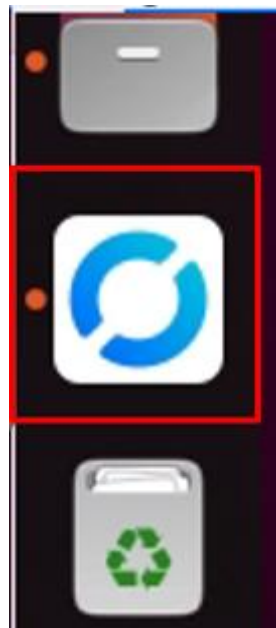

FIGURE 8-1 - RUSTDESK SHORTCUT
2. Click the RustDesk icon on the desktop. (Figure 8-1 - RustDesk shortcut)